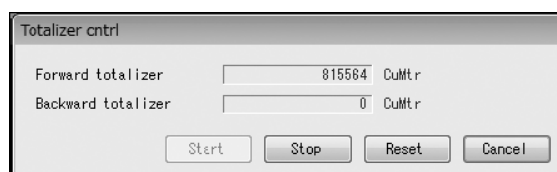

Fig. 3-75
- (1) Click "Diag/Service (T)" from the menu, and then click on "Totalizer cntrl".
- (2) The following window (Fig. 3-75) will be displayed.